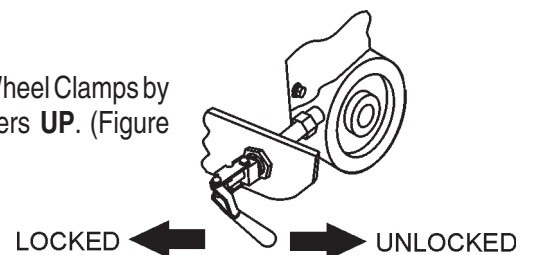

Figure 37. Wheel Clamp
2. Release Wheel Clamps by pulling levers **UP**. (Figure 37)
- Push the Wheel Clamp Levers downward to apply braking pressure to the wheels (Figure 37).
6. Slowly lower the diamond blade onto the cut line by cranking the **Raise/Lower handle** **CLOCKWISE** (Figure 37). When the handle can no longer be turned, the blade will be at its full rated depth.
1. Raise the blade out of the cut by cranking the **Raise/Lower handle COUNTER-CLOCKWISE** (Figure 37). Raise the blade high enough out of the cut to clear the surface and allow the saw to be maneuvered.